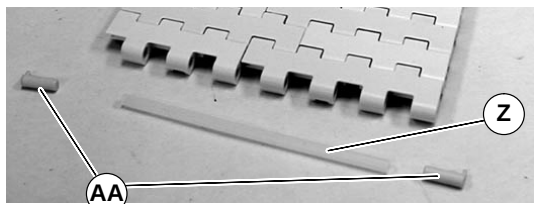

Figure 11
1. Locate the conveyor belt retaining rod (Z of Figure 11) and belt end caps (AA).